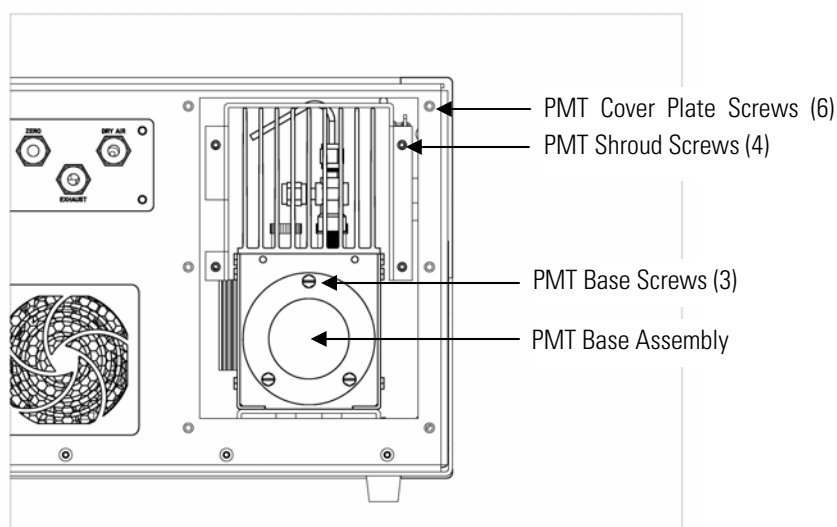

Figure 7–8. Replacing the PMT
3. Remove six external screws holding PMT cover plate and the four screws holding the PMT shroud to the panel and remove the PMT cover plate (Figure 7–8). If the cooler fan is attached, unplug the fan power cord if necessary.